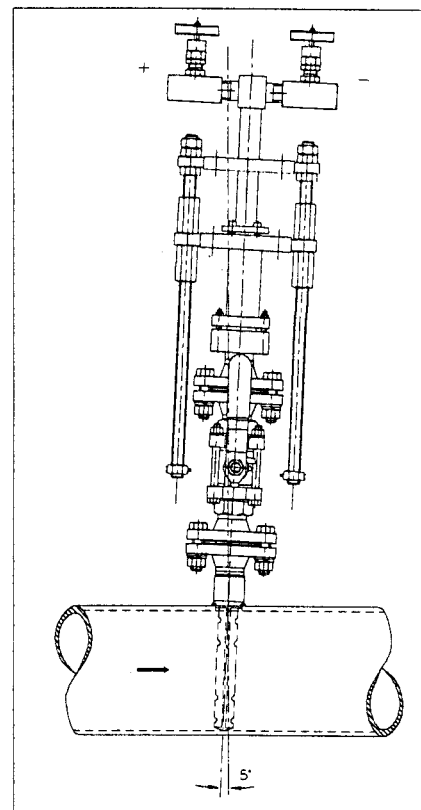

Fig. 9
4. Observe the H-dimension during the welding of the mounting stud (see also Fig. 9).